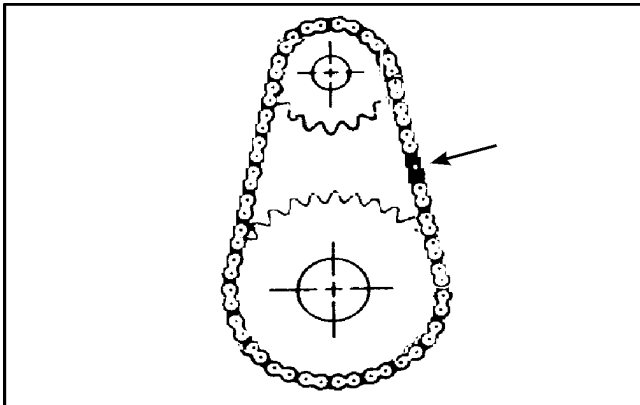

Figure 7-14. Position of idler chain link for removal.
1. Place the gearshift in neutral and roll the vehicle until the connecting link of one of the idler chains is positioned as shown in Figure 7-14.